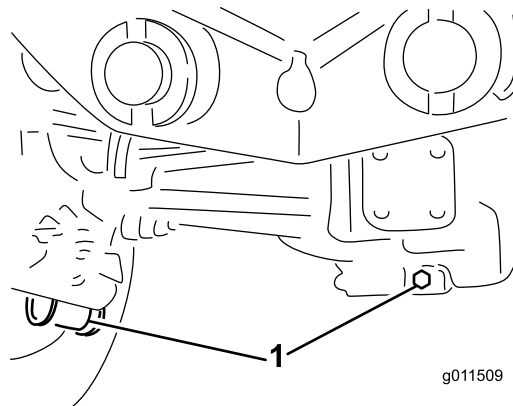

Figure 71
2. Clean the area around the 3 drain plugs; 1 on each end and 1 in the center (Figure 71).